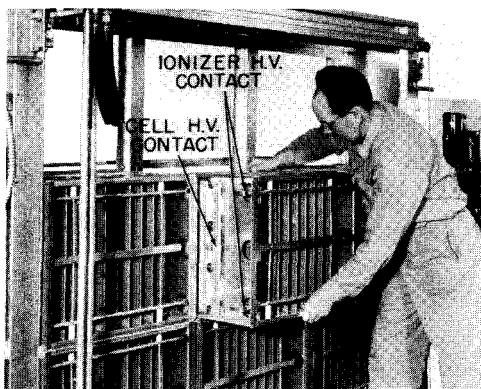

Fig. 33 — Installing the Cells
**INSTALLATION OF CELLS.** Sufficient cells are furnished to fill the inlet air side of the cell bank. See Fig. 33. *Handle the cells carefully*, being sure not to break ionizer wires or sidort the plates. Notice that cells have spring type contacts built onto each side for high voltage connections. When installing it is important to *slide* the cell *horizontally* into the cell bank. This is to be sure that these contacts do not catch and become distorted.